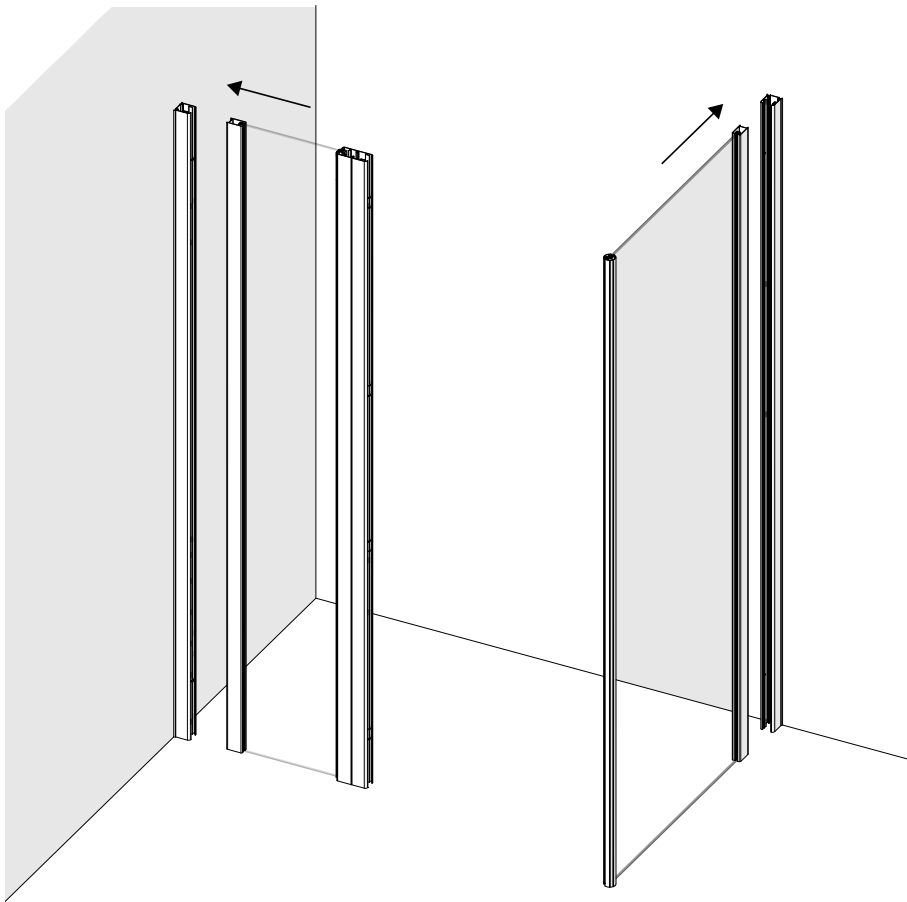

Fig. 2.2
- I. Place the panel(s) into the wall comp(s). *Figure 2.2*